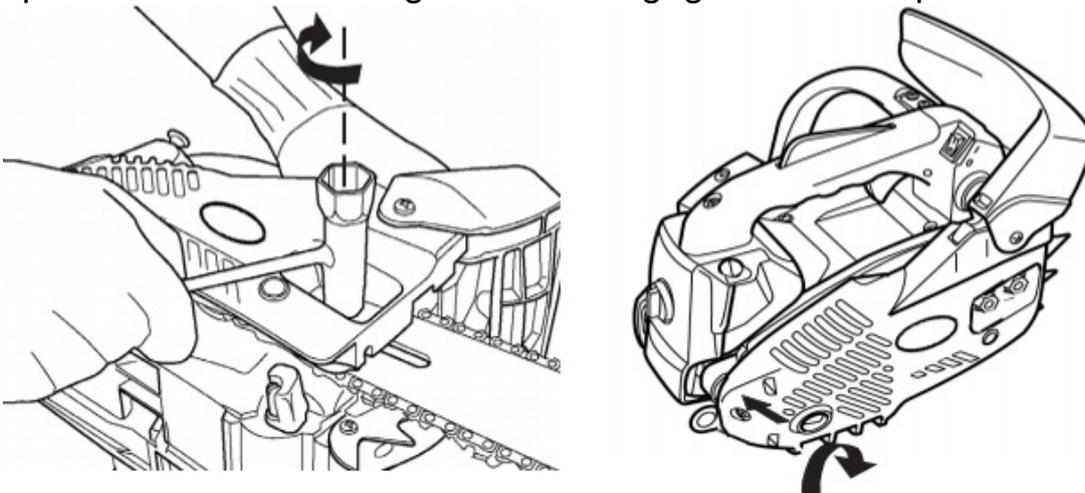

Fig.12
10) Screw on the nut and the screw (fig.12) but do not fully tighten. Place the chain saw upside down to make sure the chain is correctly fitted on the sprocket wheel with the guide teeth engaged with the sprocket wheel.
12) Fully tighten the nuts with the sparkplug wrench provided (fig.12) and the screw(fig.14) .Check that the chain slides freely in the guide bar.